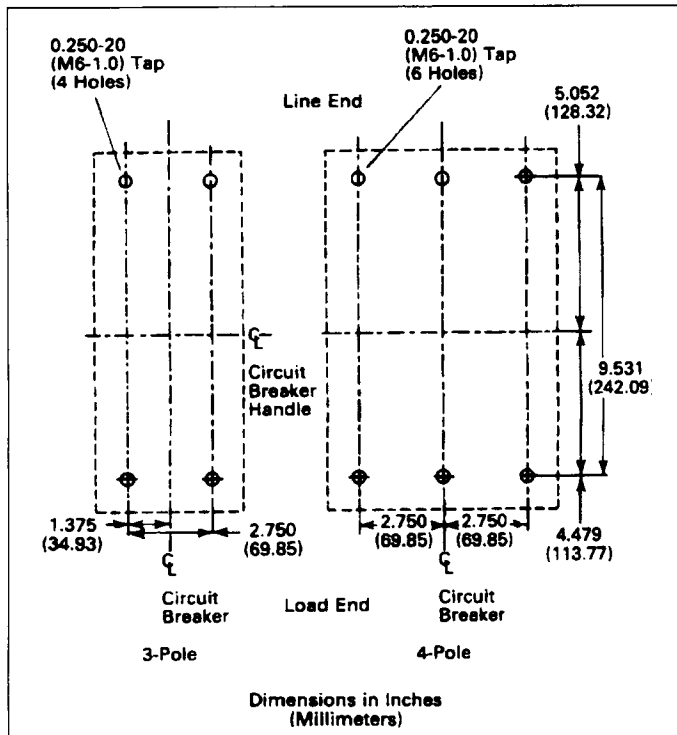

Fig. 2-2 3- and 4-Pole Circuit Breaker Mounting Bolt Drilling Plans
- a. For individual surface mounting, drill mounting panel using the drilling plan shown in Fig. 2-2.